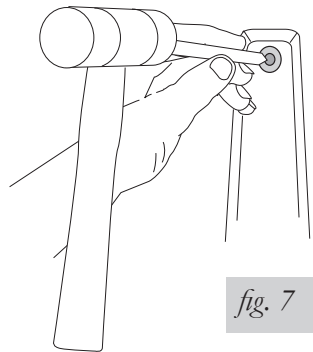

fig. 7
1. If so equipped, it will be necessary to remove the inner fenderwell liner. Carefully drive the pin through the fasteners with a center punch (fig. 7). These fasteners will be reused along with a special spacer to reattach the liner and provide clearance for the air spring. See page # for reinstallation instructions. Do not reinstall until after the entire system has been leak and clearance tested.
- b. Enlarge the hole just below and slightly forward of the existing attachment. Use a $\frac{3}{8}$ " drill bit to enlarge the hole (fig. 7, front view).
- c. Place the provided spacer (P) on the bracket side of the threads and then reattach the brake line bracket using the original nut (fig. 7, cross-section). This will not compromise the brake line in any way.